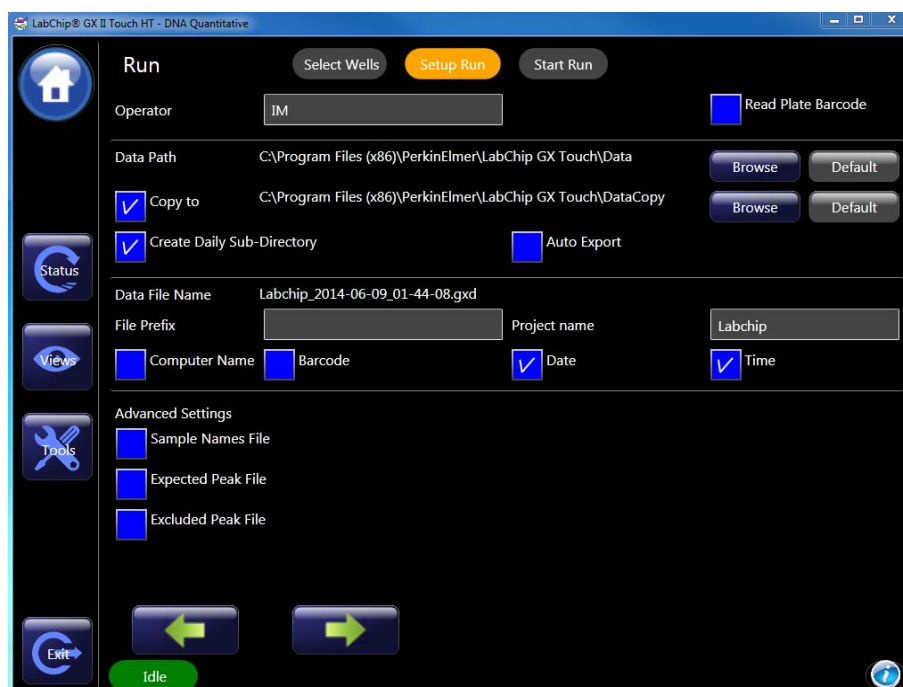

Figure 10. Setup Run Tab
- 4 Touch the **Green Arrow** button. The Setup Run tab (Figure 10) opens.